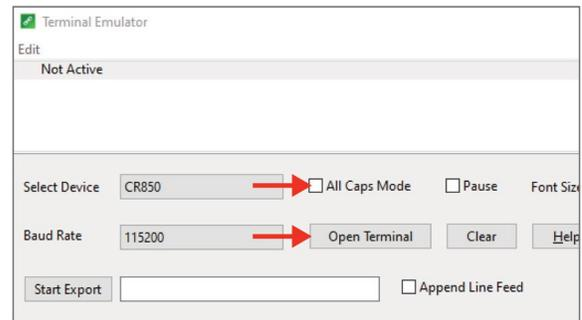

Figure 37. Closed Terminal Window
11. Uncheck the All Caps Mode checkbox if it is checked (Figure 37).
12. Click on the Open Terminal button (Figure 37).